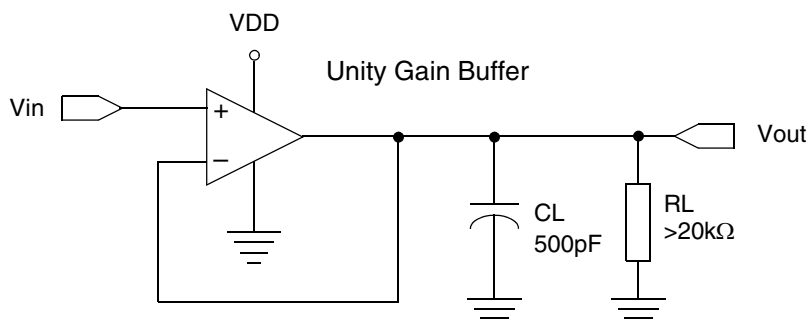
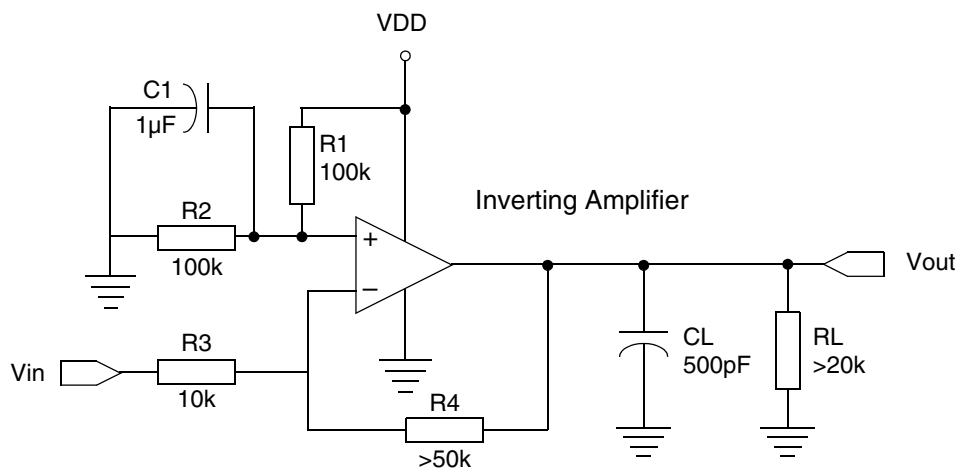
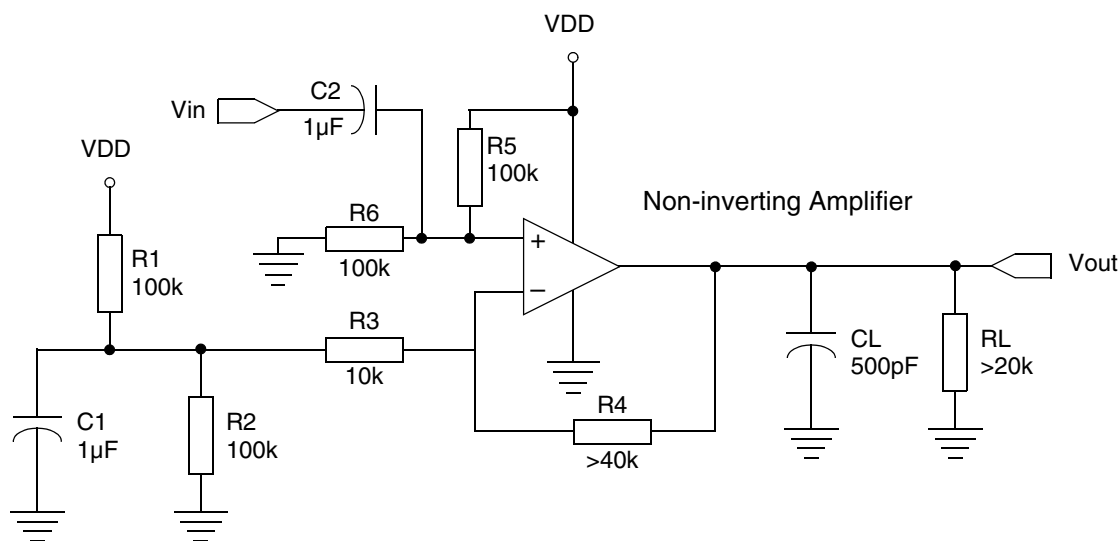

Figure 4-4. Suggested Application Circuit for Unity Gain Buffer
Figure 4-5. Suggested Application Circuit for Inverting Amplifier
Figure 4-6. Suggested Application Circuit for Non-inverting Amplifier
5. Use the circuit component values suggested for the common amplifier configurations shown in the following figures (Figure 4-4, Figure 4-5, and Figure 4-6).